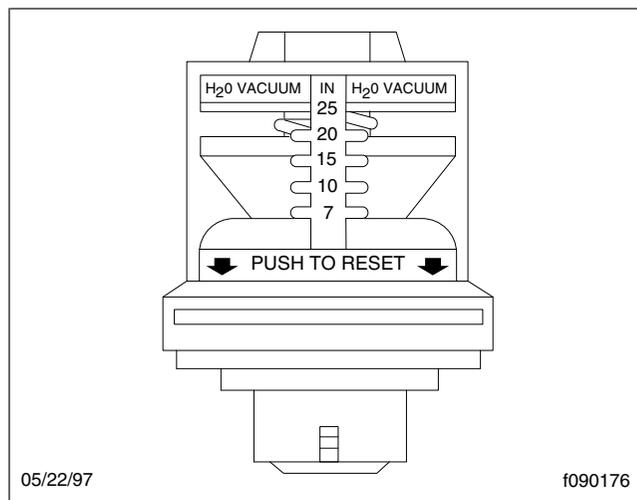

Fig. 10.2, Air Restriction Indicator
- 6.1 Check the intake-air restriction indicator to determine if the air cleaner needs to be changed. See **Fig. 10.2**.